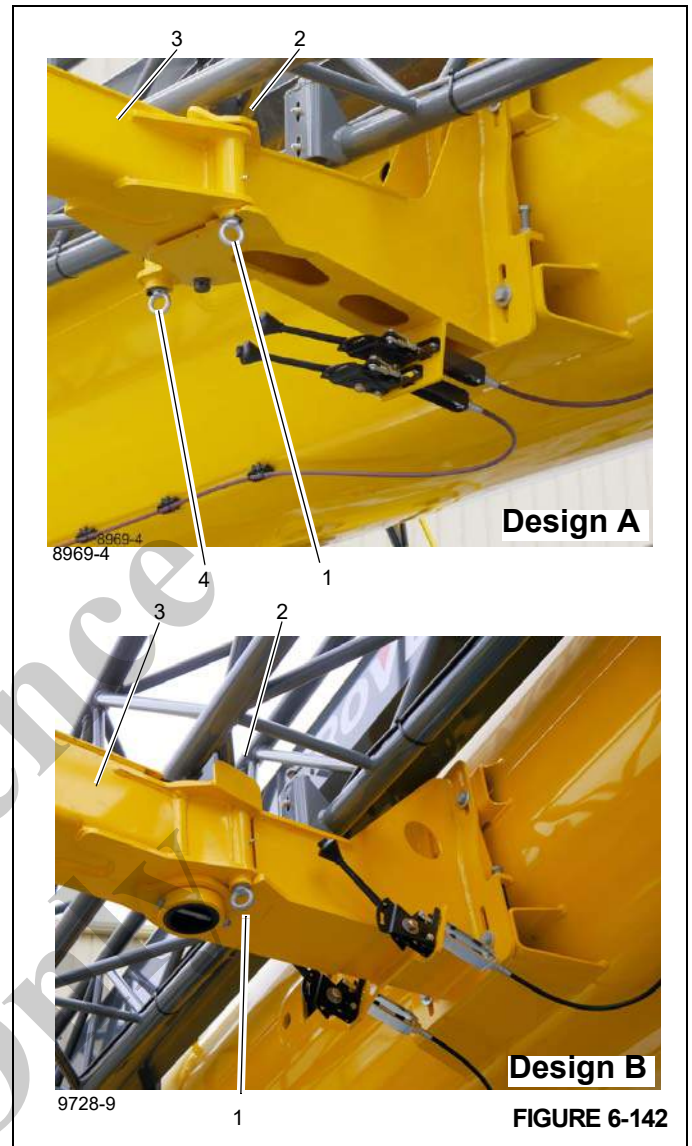

FIGURE 6-142
- 15. Pull the locking pin (1), (Figure 6-142) down against spring force, and out of the attachment lug (2), (Figure 6-142). Fold the guide ramp (3), (Figure 6-142) around until it can be secured with the spring latch (4), (Figure 6-142) **Design A**. Pull the locking pin (1), (Figure 6-142) down against spring force, and out of the attachment lug (2), (Figure 6-142). Fold the guide ramp (3), (Figure 6-142) around until it can be secured with the spring latch (1), (Figure 6-142) **Design B**.